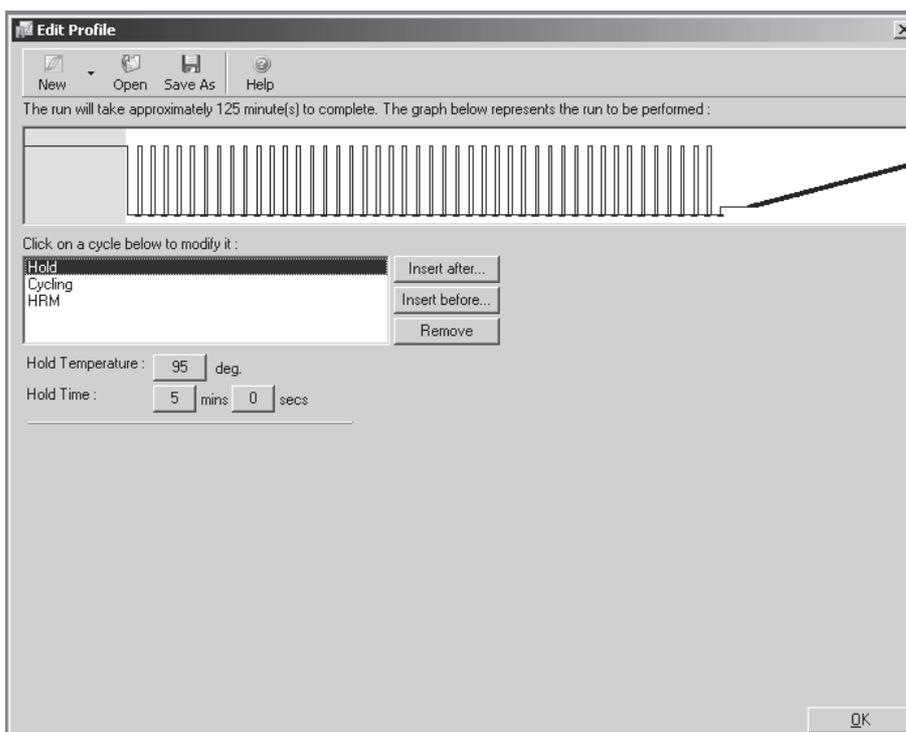

Figure 7. Initial activation step. PCR requires an initial incubation at 95°C for 5 min to activate HotStarTaq *Plus* DNA Polymerase.
5. Click on **“Edit Profile”**, and program the Rotor-Gene Q according to the program outlined in Table 5 and Figures 7–9 (pages 20–21).